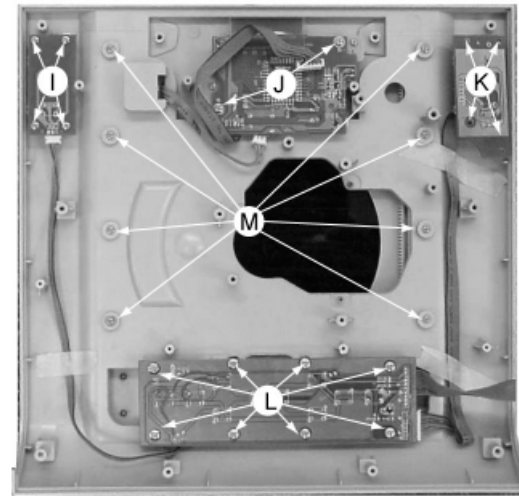

Figure 3
- 4) Loosen 4 screws I (see Figure 3) to remove the Key\_C Board.
- 5) Loosen 2 screws J (see Figure 3) to remove the Display Board.
- 6) Loosen 4 screws K (see Figure 3) to remove the Key\_B Board.
- 7) Loosen 8 screws L (see Figure 3) to remove the Key\_A Board.
- 8) Loosen 8 screws M (see Figure 3) to remove the Door Eject Lever Bracket Right/Left, then remove CD door.